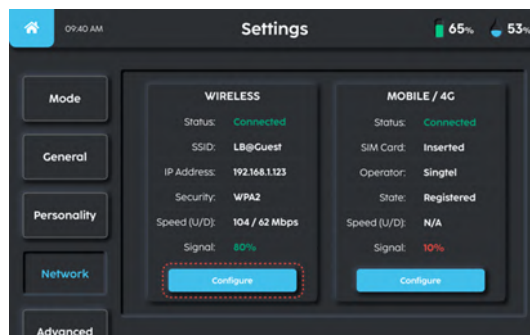

FIGURE 7-3
3. The user may select which device to configure the 'Configure' button (**Fig. 7-3**).